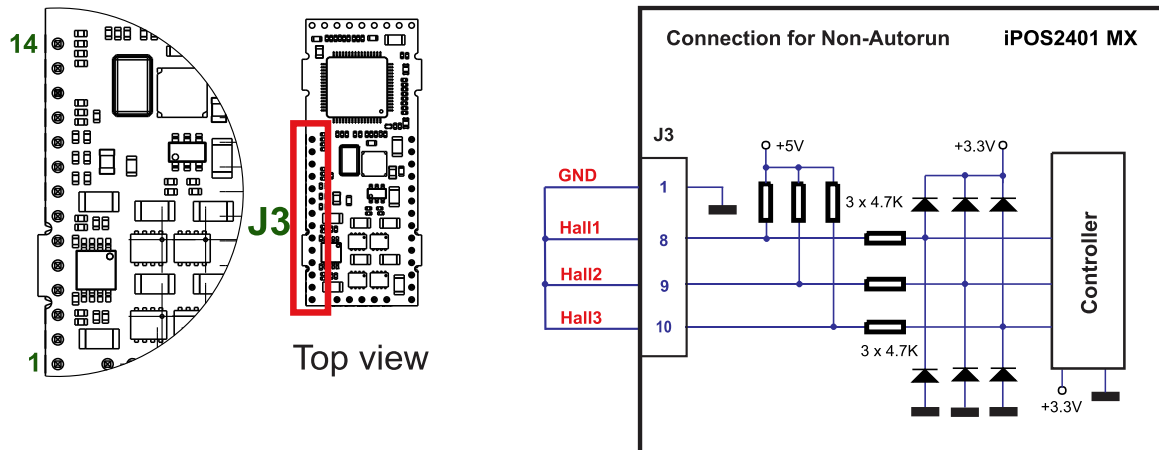

Figure 3.24. Temporary connection during power-on to remove the drive from Autorun mode
- Hardware – by temporary connecting all digital Hall inputs to GND, during the power on for about 1s (until the green led is turned on), as shown in *Figure 3.24*. This option is particularly useful when it is not possible to communicate with the drive.
To recover from this behavior, the setup table can be invalidated by connecting all digital Hall inputs to GND, as shown in **Figure 3.24**.